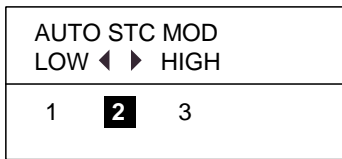

Figure 1-8 Dialogue for automatic adjustment of STC
1. Press the [STC] key once or twice to show the dialogue shown in Figure 1-8.